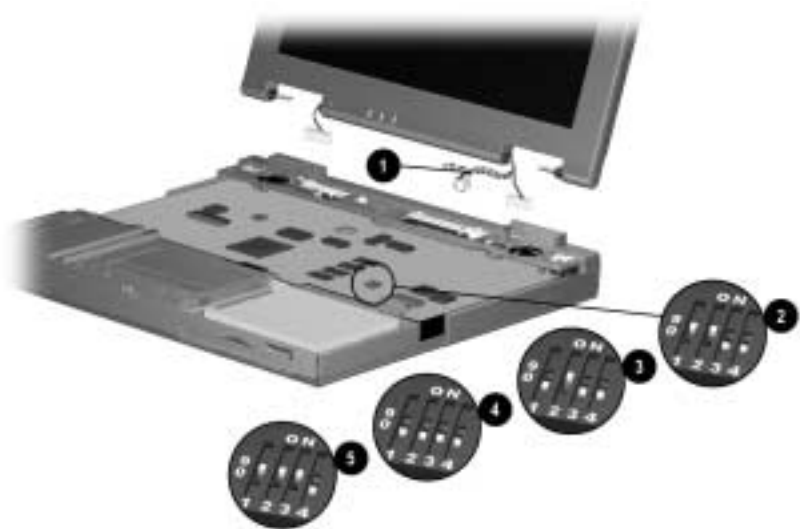

Figure 5-28. Setting the Display DIP Switches
1. Locate the part number label on the display microphone cable ❶ (Figure 5-28).
2. Part numbers 541566850001/176038-001, 541566931001/212897-001, and 413000020183/222715-001 correspond to the 12.1-inch, TFT display assemblies. If these part numbers are on the label, make sure the display DIP switch on the system board is set according to setting ❷.